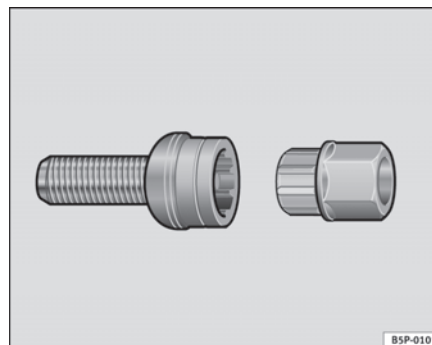

Fig. 159 Anti-theft wheel bolt
- Insert the adapter onto the wheel bolt and push it on as far as it will go ⇒ page 236, fig. 159.